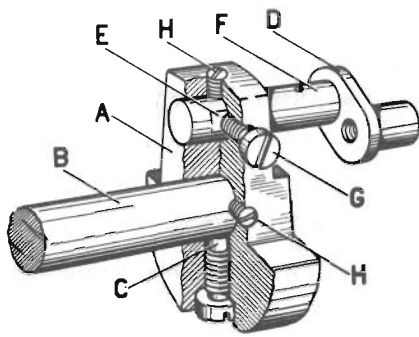

Fig. 8
- the counterweight **A** (Fig.8) must be fixed on the shaft **B** by means of a conical screw **C** which must enter into the housing cut out for it in the upper shaft,